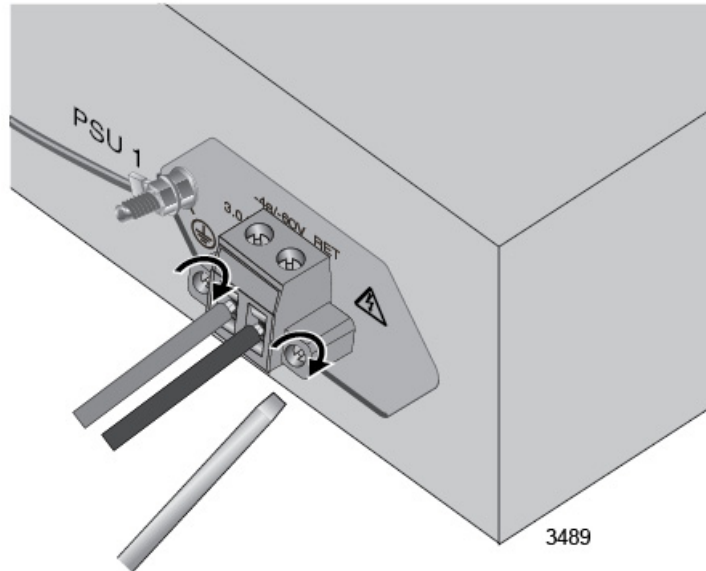

Figure 45. Securing the DC Connector to the Switch
10. Tighten the two captive screws on the sides of the DC connector to secure the connector to the switch. Refer to Figure 45.